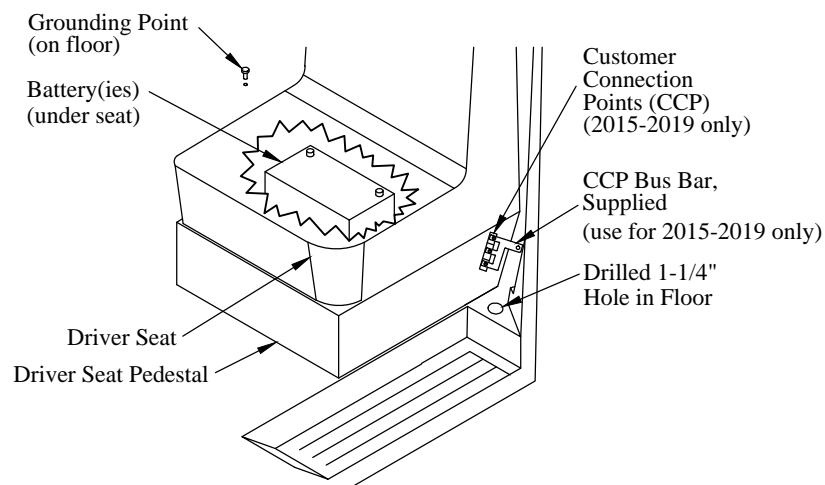

Figure 13: Power connection locations.
4. **Drill** and **Deburr** a 1-1/4" hole in the floor next to the driver seat in the location shown (Figure 13).
10. **Cut** the negative(-) lead to the length required to reach a vehicle ground point on the floor between the front seats (Figure 13).
19. **Remove** the plastic cover from the CCP on the driver seat pedestal (Figure 13).
20. **Install** the supplied bus bar on the CCP studs using three (3) supplied M5 nuts and star washers.